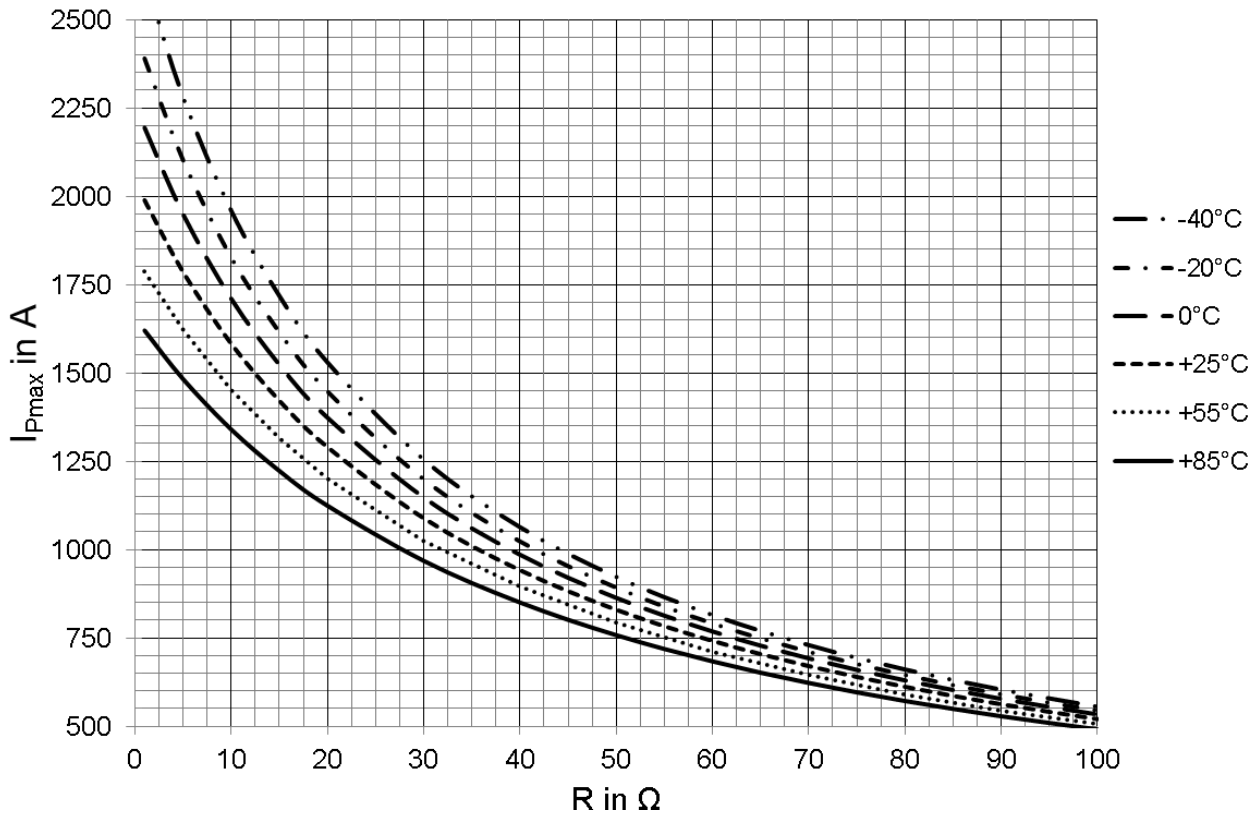

Fig. 1: $I_{P,max} = f(R_m) @ T_A$
* for $I_{P,max}$ see fig. 1 on page 2